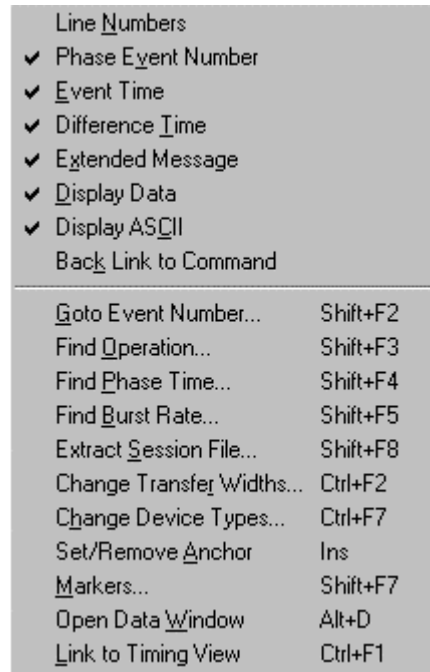

Figure 30
**To initiate a search** in any analysis View, first 'focus' on the View by moving the cursor inside that window and left clicking, which will highlight that window's border (click on the Phase View of Sample.dat.) **Click the right mouse button** inside that window (or press **F2**) which will bring up the Pop-up Operations Menu (Figure 30.)